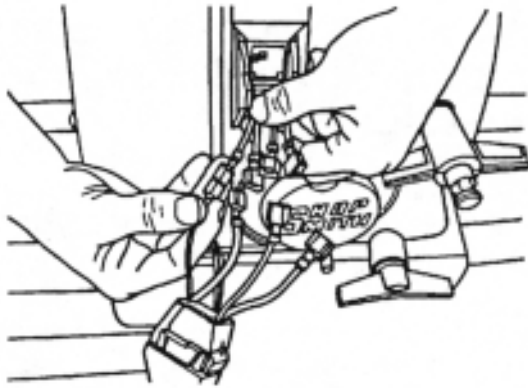

Figure 4
5. If you have two wires extending from the back of the switch, disconnect the wires from the switch's spade terminals. If you have four short wires extending from the back of the switch, they must be disconnected at the terminals. See Figure 4